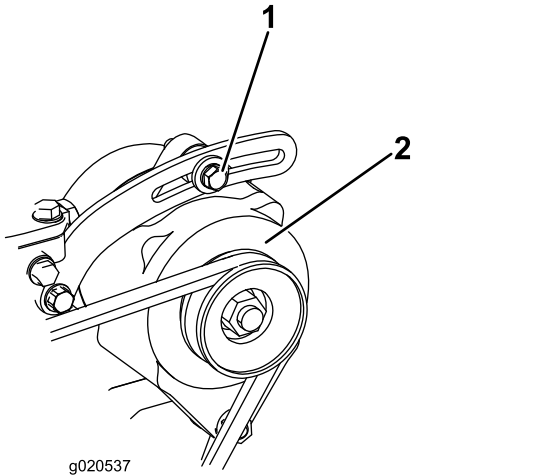

Figure 73
Check the condition and tension of the belt (Figure 73) after every 100 operating hours.
2. If the deflection is not 10 mm (3/8 inch), loosen the alternator mounting bolts (Figure 73). Increase or decrease the tension of the alternator belt and tighten the bolts. Check the deflection of the belt again to ensure that the tension is correct.